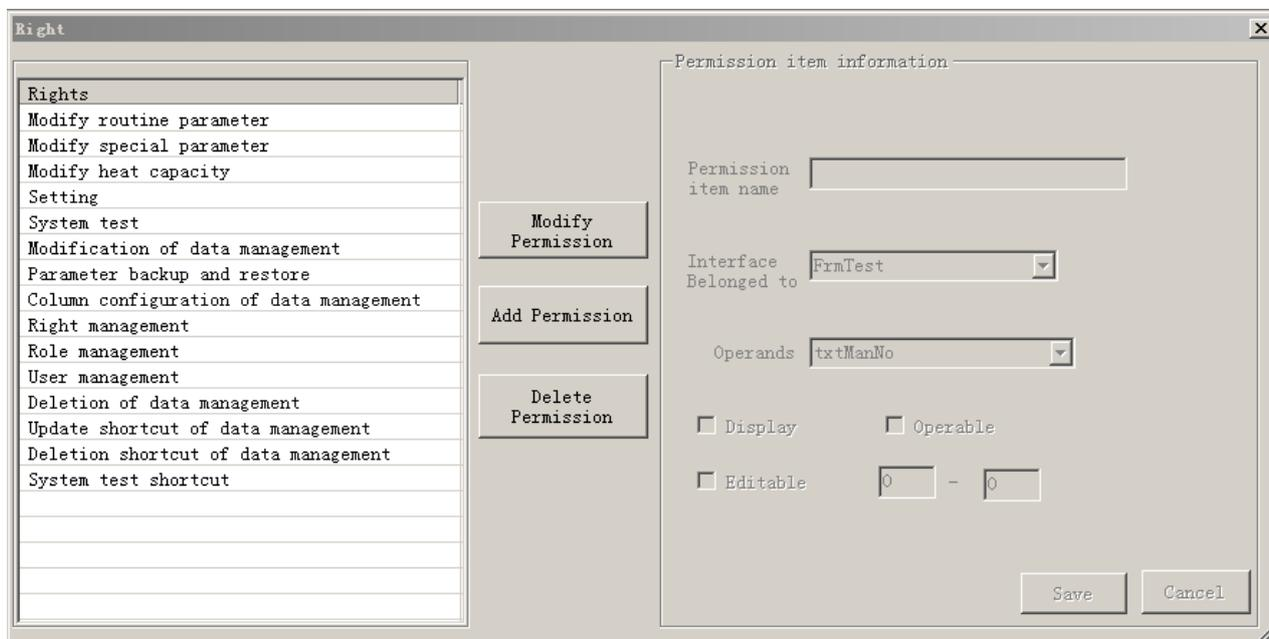
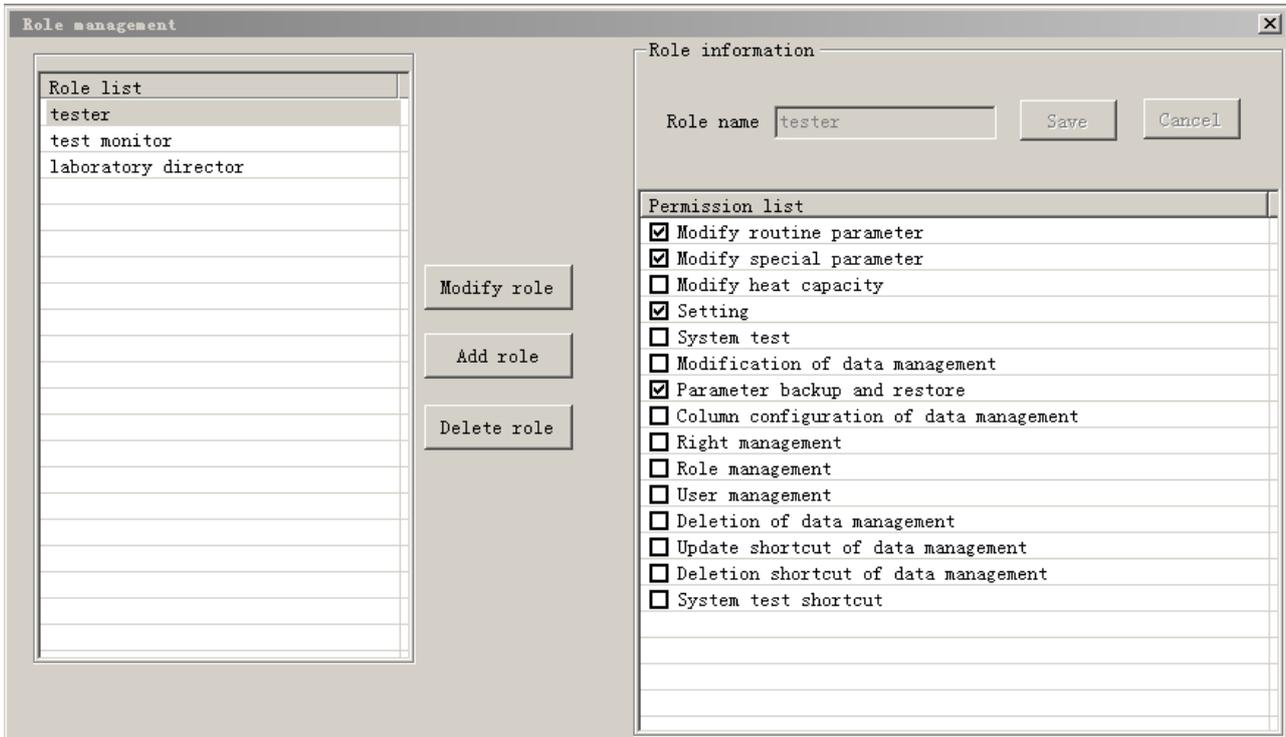

Fig 5-6-1 Right management
Fig 5-6-2 Role management
5. User-defined: If current item is calorific value, click this item to display window shown as Fig.5-6-1. If current item is heat capacity, click this item to display window shown as Fig.5-6-2.